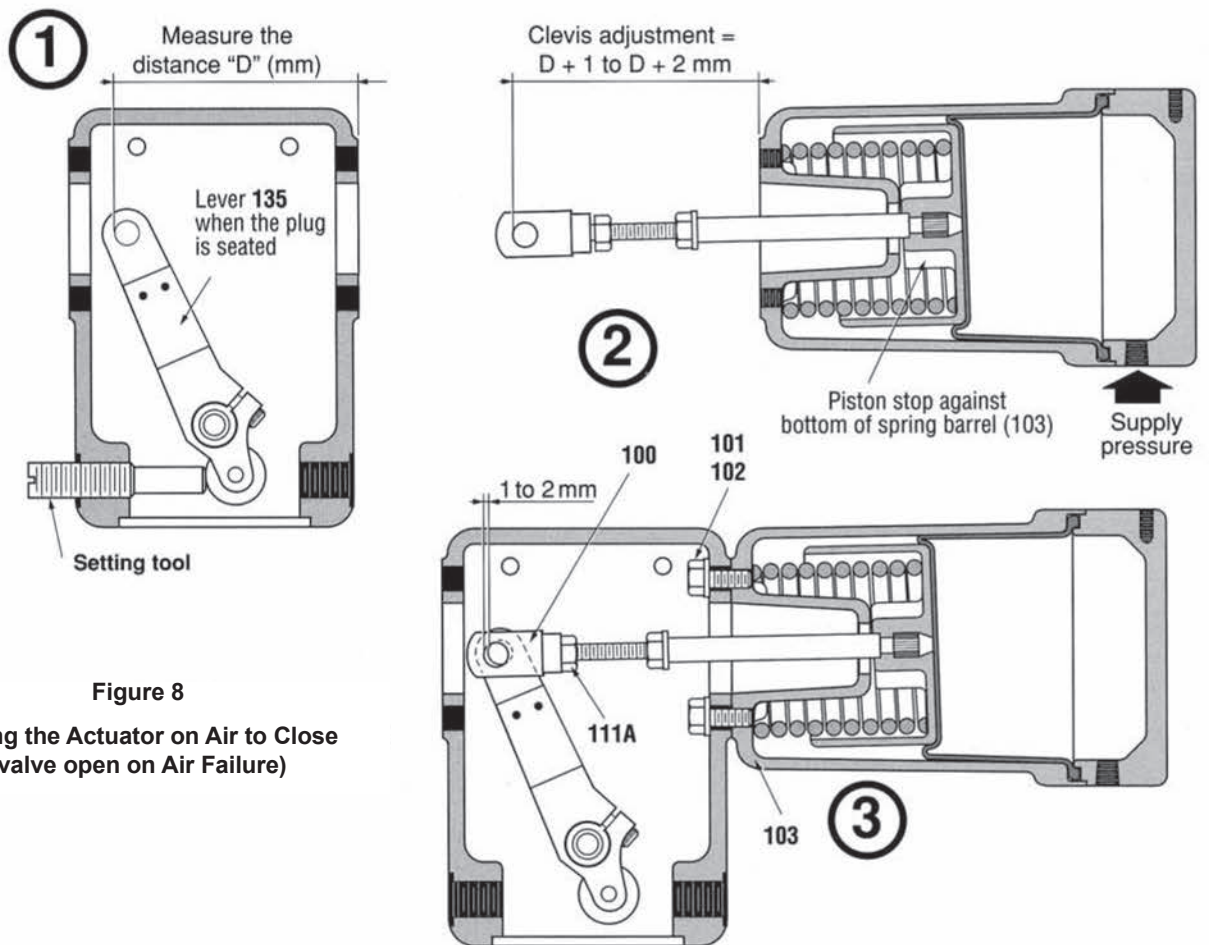

Figure 8
B. Valve open on air failure (Air to close) (Figure 8)
- a. When the lever has reached the position corresponding to the required tightness, measure the “D” distance from the contact surface of the spring barrel on the yoke to the beginning of the hole for the clevis pin in the lever (135).
- b. Supply air to the actuator so that the actuator stem moves out fully. Set the clevis (100) so that the distance from the beginning of the hole for the clevis pin to the contact surface for the yoke is 1 to 2 mm greater than the previously measured “D” distance.
- c. Remove the handwheel or setting tool and secure the spring barrel with screws (101) and washers (102).
2. Move the actuator to an intermediate position, align the lever and the clevis holes, insert the clevis pin (124) and fit the clevis pin clips (122).
4. Press the lever (135) against the shaft bearing (125) and tighten the lever cap screw (137).
5. Secure the indicator (154), screw in the handwheel (141) if necessary and install the washer (139) and truarc ring (138). Lock handwheel in neutral position. Install the remaining covers (118, 121, 130 and 133).